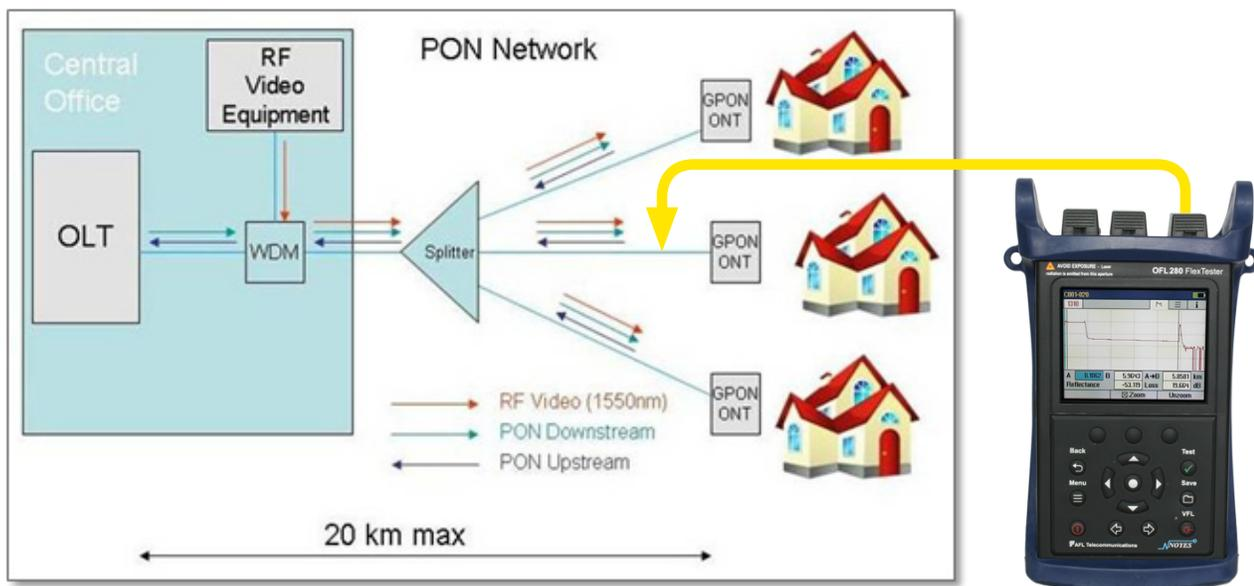
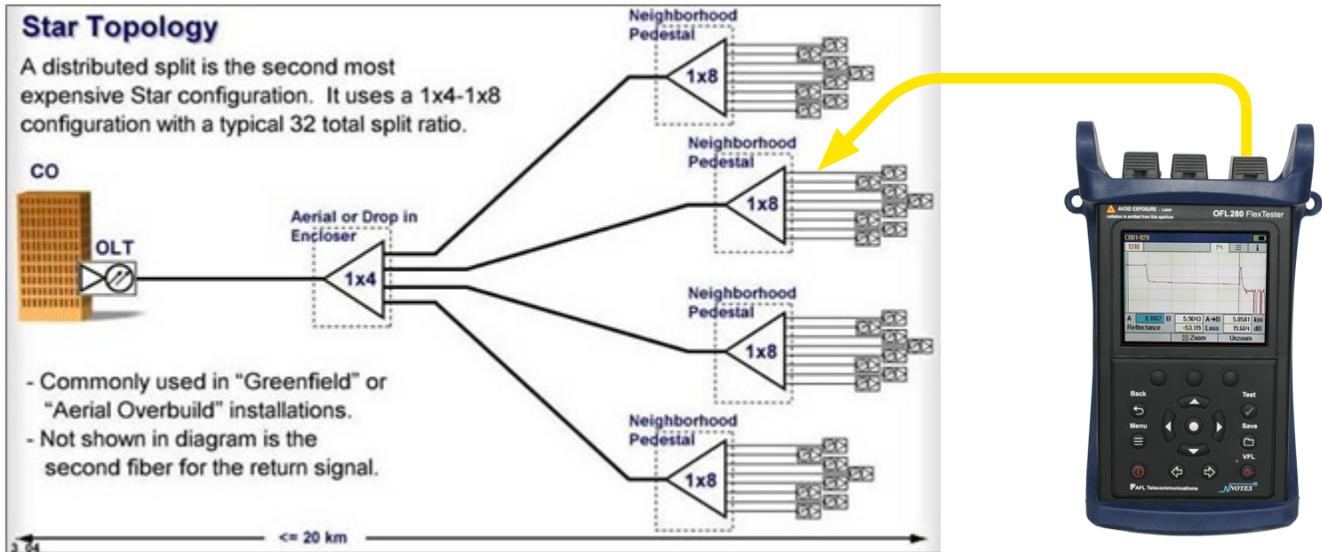
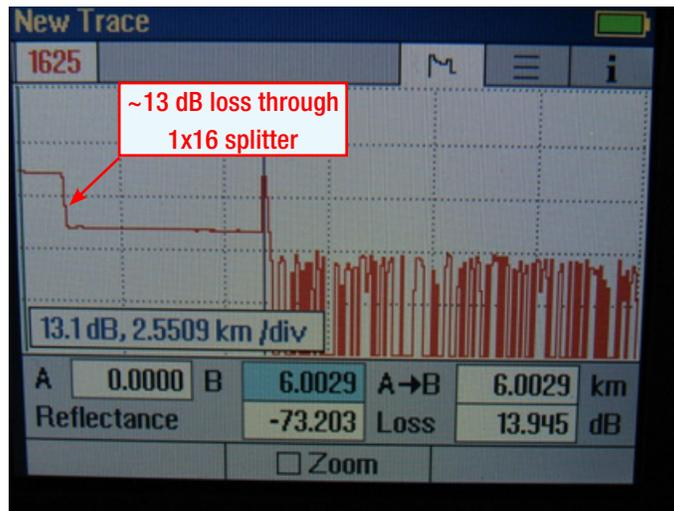
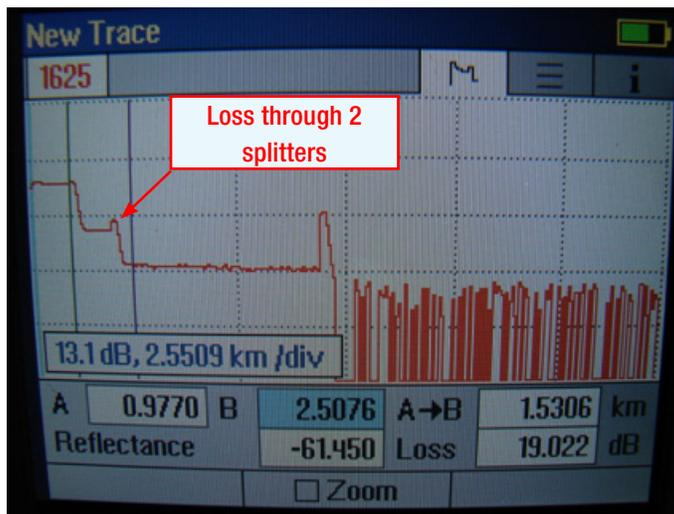

Figure 1: Using OFL280 to scan an FTTx PON from ONT to OLT through 1xN splitter
Figure 2: Using OFL280 to scan FTTx PON from ONT to OLT through cascaded 1x4 and 1x8 splitters
Figure 5: Locate the splitter as the high loss event.
Figure 6: Add the loss of cascaded splitters to determine correct PON setting.
The **OFL280-103** is more typically used to scan PONs from ONT to OLT, as shown in Figure 1 and Figure 2.
- Set the PON setting to the PON split ratio. If you do not know the ratio, select a higher setting (e.g. 1x32) to ensure the scan will not report the loss through a high-ratio splitter as the end of the fiber. The high split ratio will force a wider pulsewidth to be used to see through the higher loss of the splitter. The splitter can be easily identified from the trace as a high loss event (> 3dB), as shown in Figure 5. You can estimate the actual split ratio from an initial scan using Table 1.
- Some PON systems are constructed by cascading two or more splitters separated by several km of fiber (as shown in Figure 2). This appears in a trace as several high-loss events, as shown in Figure 6. In this case, add the losses of the high-loss splitter events to determine the appropriate split ratio setting from Table 1.
- Once Test  is pressed, the **OFL280-103** will indicate New Trace and begin to acquire and display trace results. Multiple scans are averaged to improve trace quality. Averaging time depends on the Range and PON split ratio settings. A red meter at the top of the screen indicates progress towards scan completion. Once the scan is complete, a trace from ONT through the splitter to OLT will be displayed, similar to those shown in Figure 5 and Figure 6.